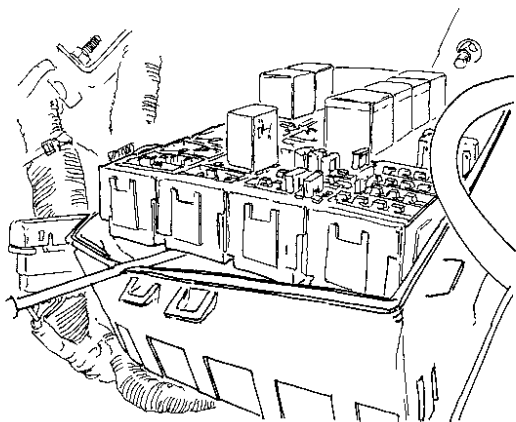
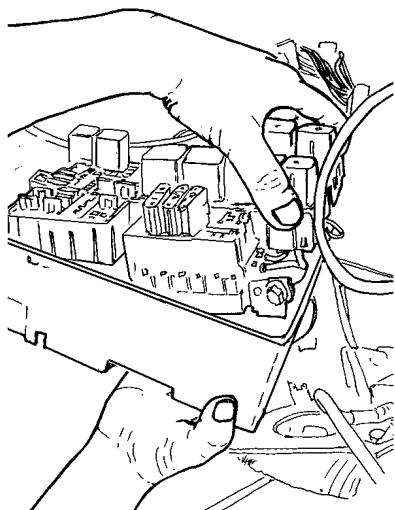

Figure 12 Pry Fuse Block from Fuse Box
Figure 13 P.D.C. Fuse Block Box With Fuse Blocks Tilted Partially Free
14. Disconnect the fuse block by inserting a very thin screw driver or other tool between the fuse block and the side of the fuse box, then pry up (Figure 12) and remove (Figure 13).